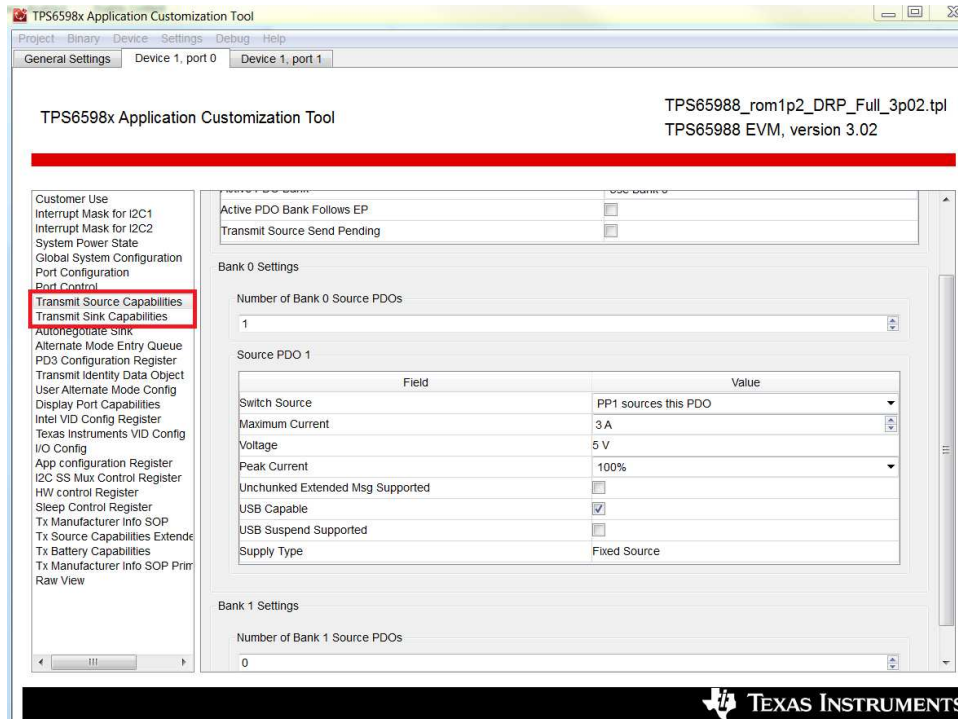

Figure 2. Transmit Source Capabilities Window
- Navigate to either Transmit Source Capabilities or Transmit Sink Capabilities, depending on the intended use case (see Figure 2).